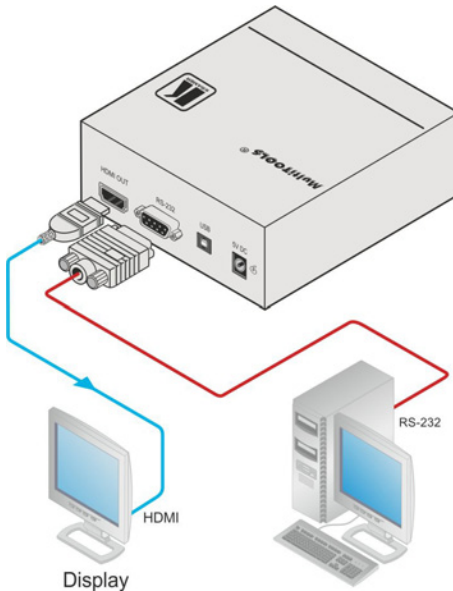

Figure 3: Connecting the 840HxI Pattern Generator
To connect the **840HxI** as illustrated in the example in Figure 3:
3. Connect the power adapter to the 5V DC socket and to the mains electricity (not shown in Figure 3).